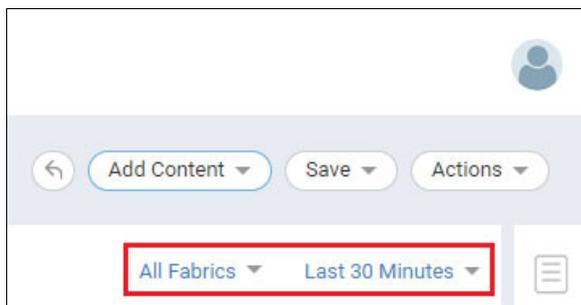

Figure 5-135 Customizing the scope
6. Customize the network scope and date range by using the drop-down lists on the right side of the filter bar (Figure 5-135).